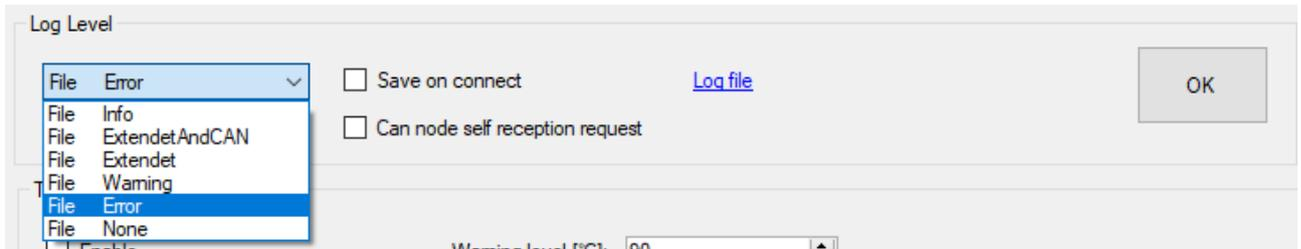

Figure 60: Log Level Options
- Log Level select (Figure 60).